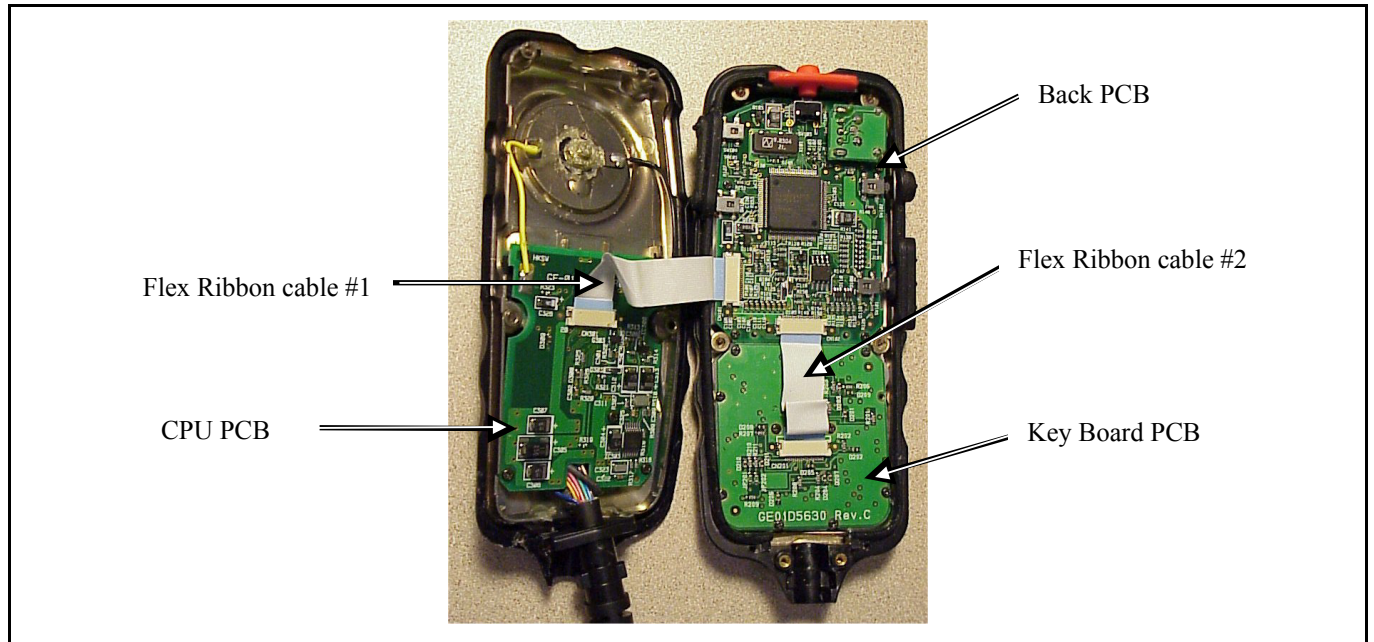

Figure 8-2: Location of PCBs and Flex Ribbon Cables
2. Remove the ribbon cable from both the Volume Board Assembly and the Keyboard Assembly connectors by pulling the cable straight out and away from the connectors. See Figure 8-2: Location of PCBs and Flex Ribbon Cables. Discard the flex ribbon cable.